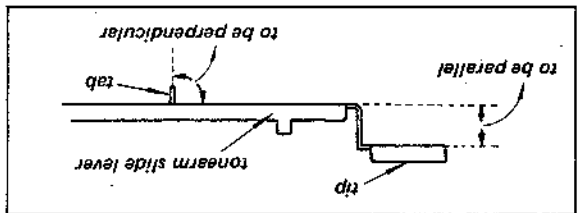

Fig. 2-7. Tonarm slide lever installation
- a) The tip of tonearm slide lever is parallel to the tonearm slide lever as shown in Fig. 2-7.
- b) The tab of tonearm slide lever is perpendicular to the tonearm slide lever as shown in Fig. 2-7.